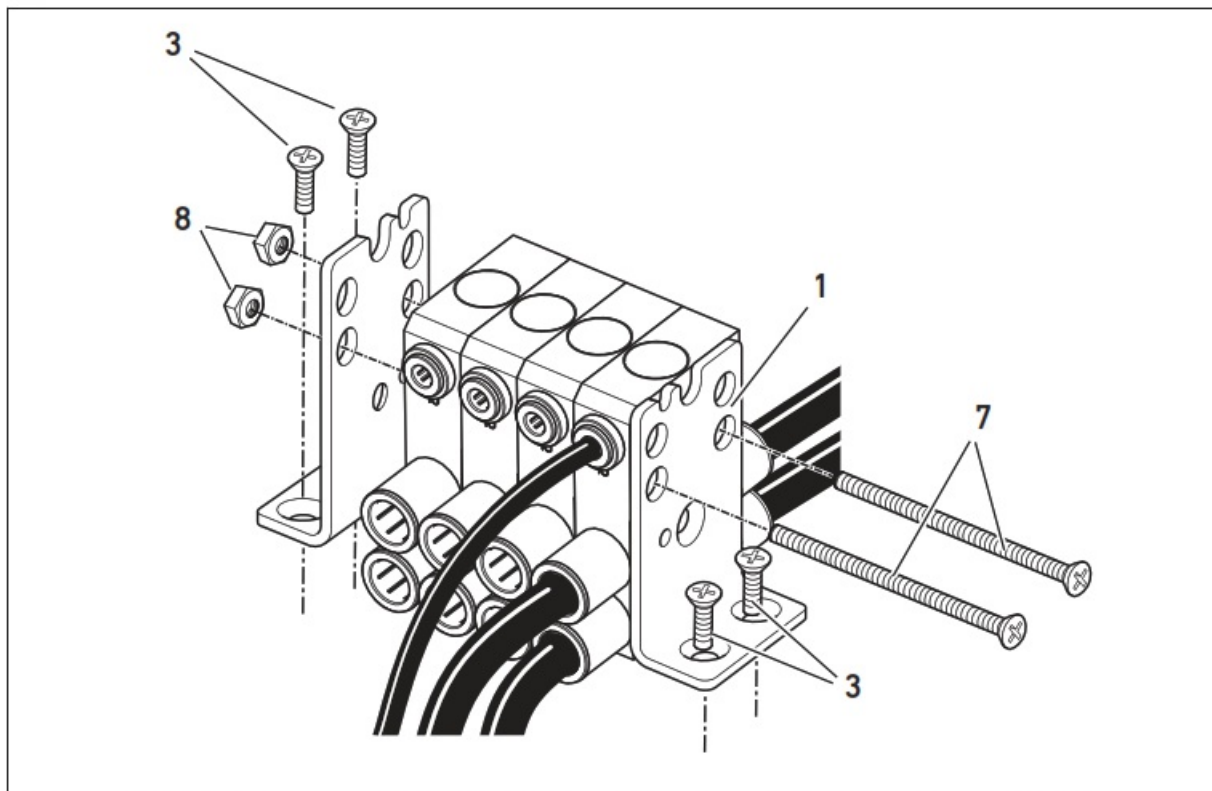

Fig. 7: Mounting and stacking exhaust modules, shutoff modules, throttle modules, and single-channel pressure regulators
2. Guide both M6 screws (7) through both the through holes on the mounting brackets and function modules (see Fig. 7).
3. Place one M6 nut (8) on each of the two screws and tighten them.